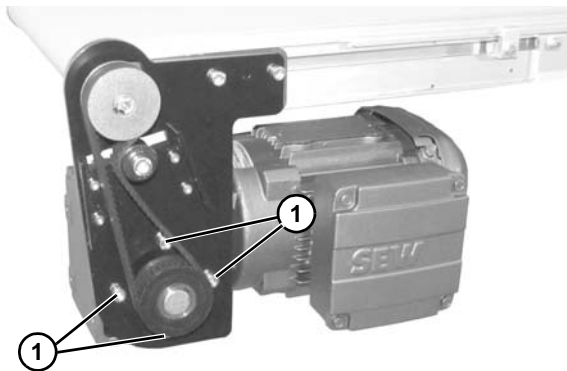

Figure 6
- If required, change gearmotor position by removing four (4) screws (Figure 6, item 1). Rotate gearmotor to other position and replace screws (Figure 6, item 1). Tighten to 103 in-lb (12 N-m).